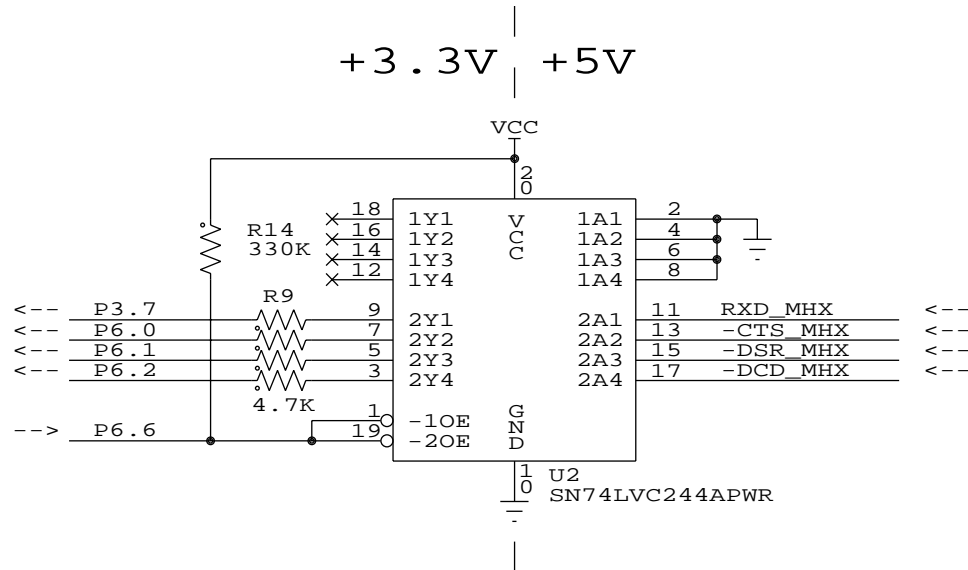
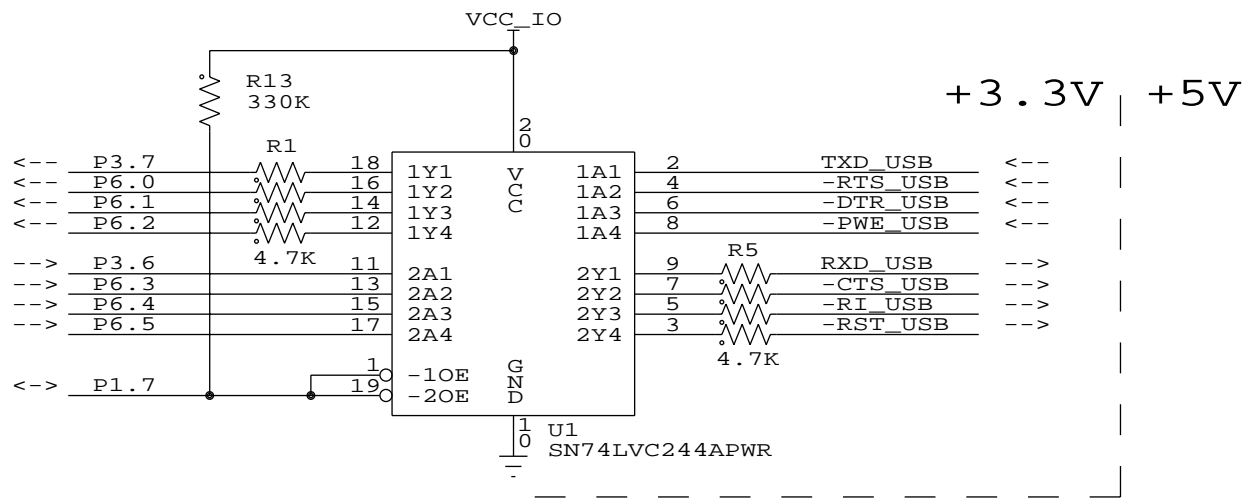

Figure 6: Level Shifting down to 3.3V and Isolating using LVC Logic
Figure 7: 3.3V Isolation Driven by Presence of External Power VCC_IO
- * To translate and isolate 5V down to 3.3V, we use half of an LVC244A powered at 3.3V (permanently). The $-\text{OE}$ control signal must also be pulled to the chip's VCC for minimum power consumption and power-on / power-off isolation (Figure 6).
- * When USB cable is removed, LVC244A automatically isolates MSP430 from FT232BM through its partial power-down mode (Figure 7).
- * **Figure 6 and Figure 7 illustrate this technique. $4.7k\Omega$ series limiting resistors chosen for adequate margin under all possible operating conditions (including user error).**